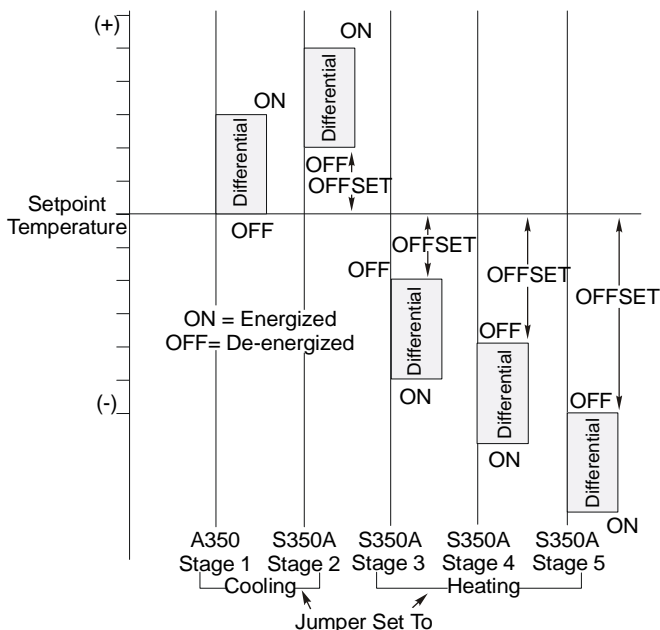

Figure 6: Typical Multistage Heating/Cooling Application
With **Heating mode** selected, the differential is below setpoint. The relay and LED indicator will de-energize as the temperature rises to the setpoint. As the temperature drops to the setpoint *minus* the differential setting, the relay will energize and the LED illuminates. Refer to Figure 6.
3. Adjust the differential potentiometer (DIFF) on the A350 as needed. (Figure 6 is an example of a multistage application.) The stage module's offset and differential can be set independently.
1. Make sure installation and wiring connections are according to job specifications before applying power. (Refer to Figure 6 for an example of a multistage application.)